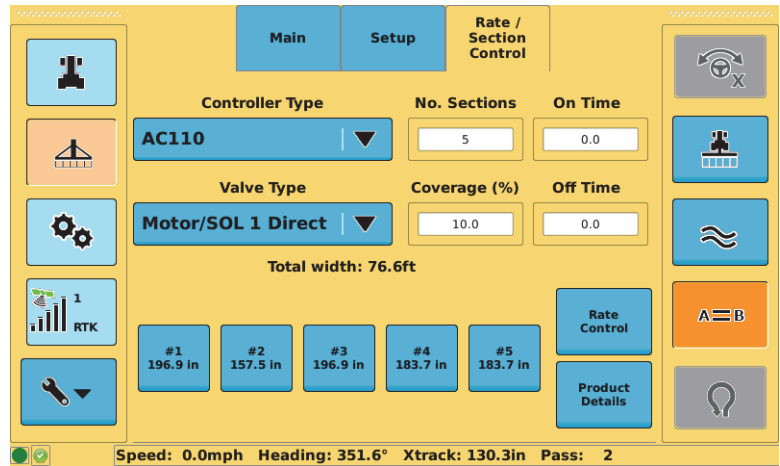

Figure 5: Section Control screen
2. Press **Section Control**. The Section Control screen appears (Figure 5 above—when you first display this screen no values will be selected or entered).